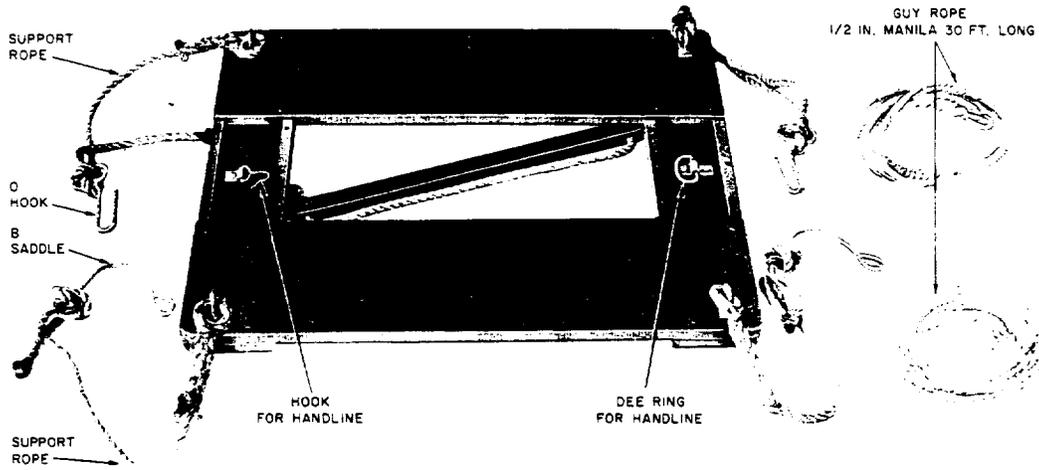

Fig. 1-D Aerial Platform
- 2.04 The D Platform, which is approximately 42 inches long by 35 inches wide and weighs 38 pounds including guy ropes and support ropes, is illustrated in Fig. 1.